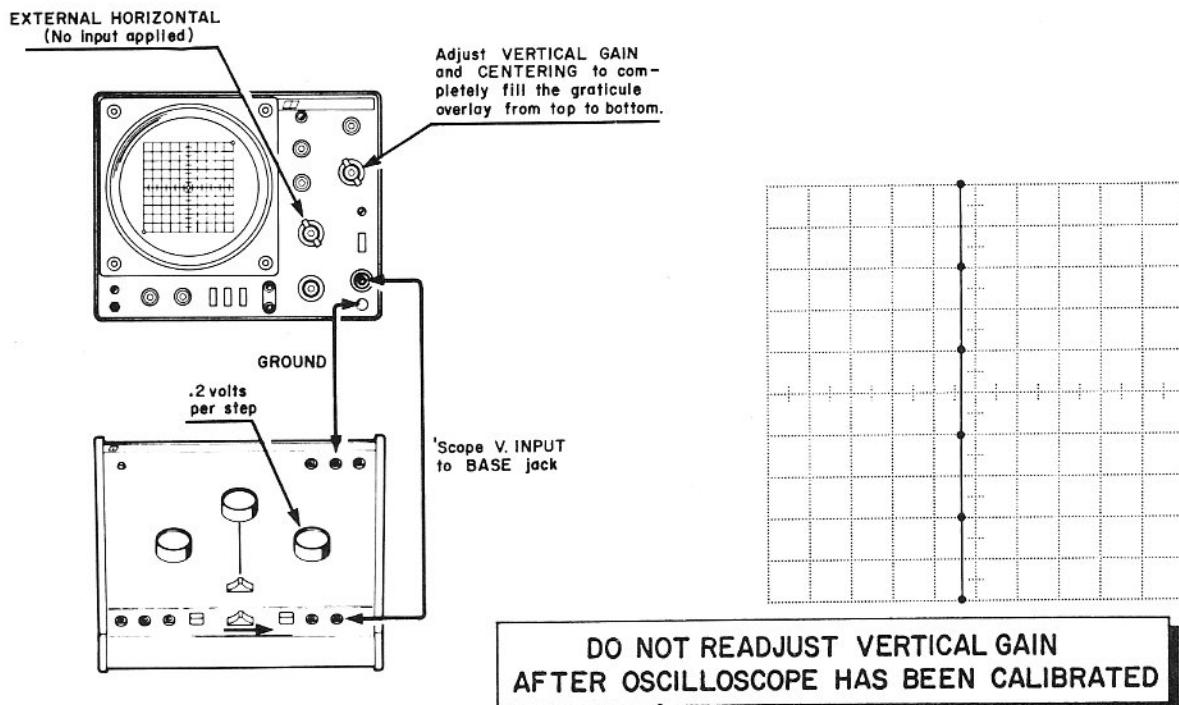

Figure 5. Oscilloscope Vertical Calibration
- A step-by-step procedure follows (refer to Figure 5)
8. The display should resemble that shown in Figure 5, a series of six vertical dots, and possibly a light vertical trace between dots. Adjust the vertical gain of the oscilloscope so the display exactly fills the graticule from top to bottom (10 divisions). Adjust the vertical centering as required.